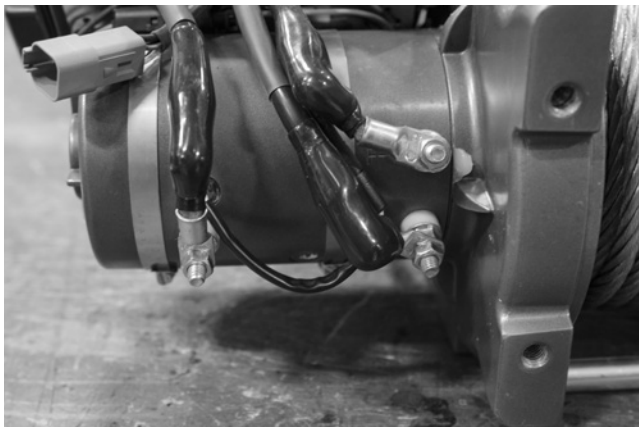

Figure 3
4. Remove the bolts and replace them with the supplied M6 x 15 bolts (fig. 3).
6. Disconnect the solenoid pack wiring from the winch motor (fig. 3).